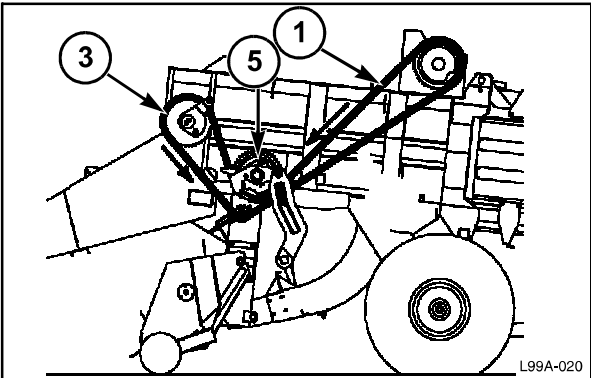

FIG. 23
FIGS. 23–24: With the drive chain (1) removed, rotate the flywheel until the timing marks (2) on the stuffer/knotter drive sprocket (3) (under the shearbolt) are aligned with the timing marks on the structure (4).